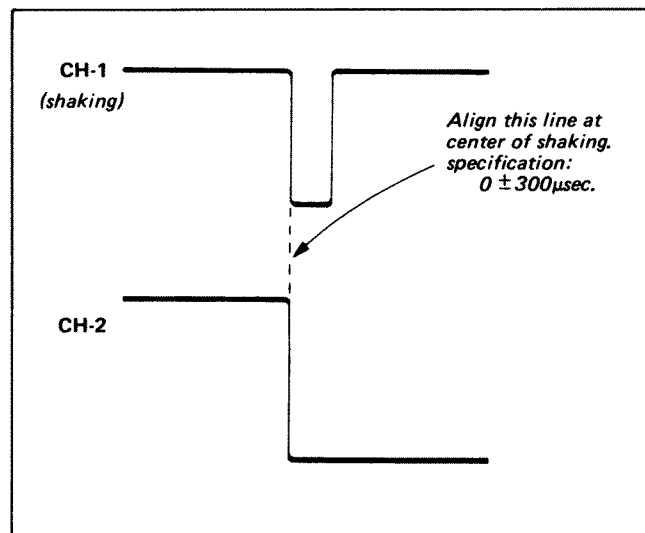

Fig. 4-14. Tracking control center adjustment
- (1) Set the TRACKING CONTROL knob to its center detent position.
- (2) Play back the β II mode segment of the alignment tape.
- (3) Connect the oscilloscope CH-1 probe to TP7 and the CH-2 probe to TP6.
- (4) Adjust RV6 so that the phase of the CH-1 negative-going edge is the same as that of the CH-2 negative-going edge. (See Fig. 4-14.)